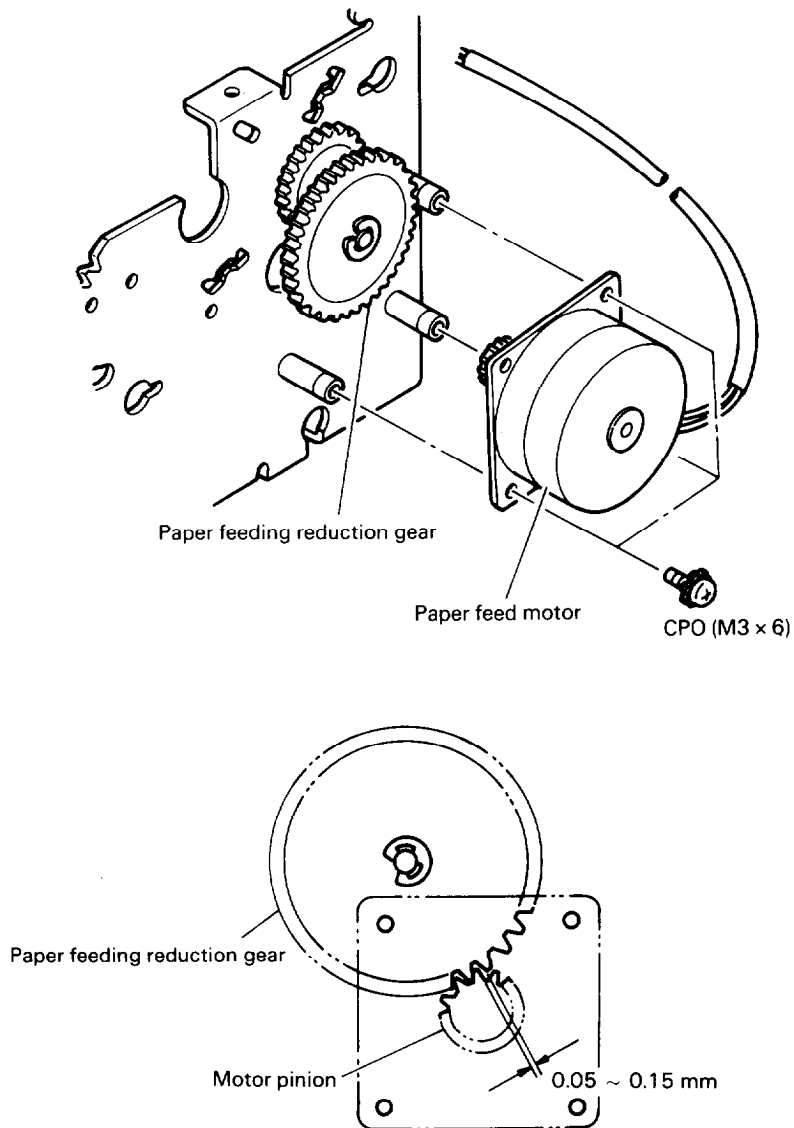

Fig. 4.25 Backlash of the paper feed motor
4.4.4 Backlash of the paper feed motor and paper feeding reduction gear (Fig. 4.25)